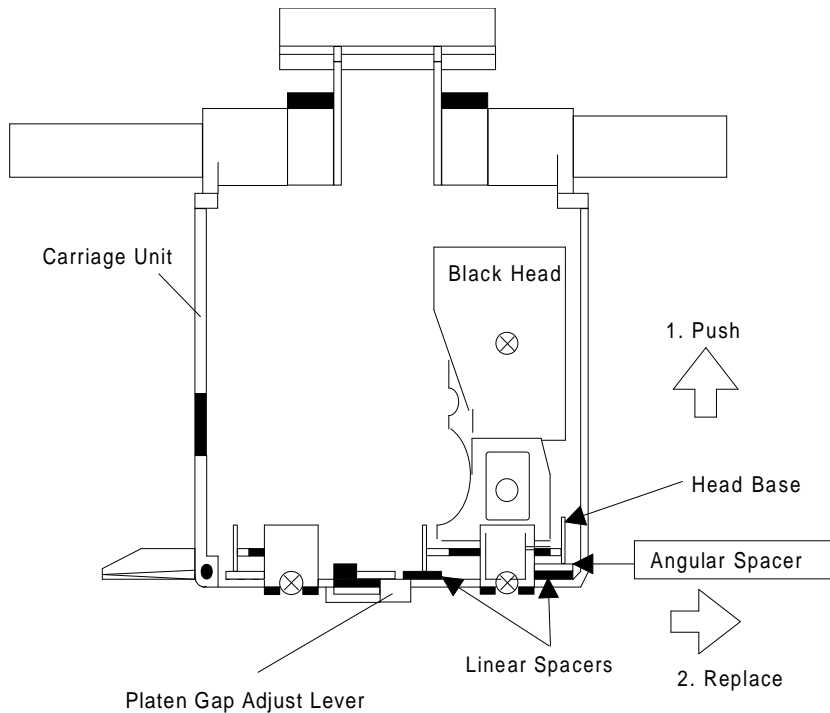

Figure 4-7. Angular Spacer Replacement Method
- 11. Replace the angular spacer for the black head with a new one. (Refer to Figure 4-7.)